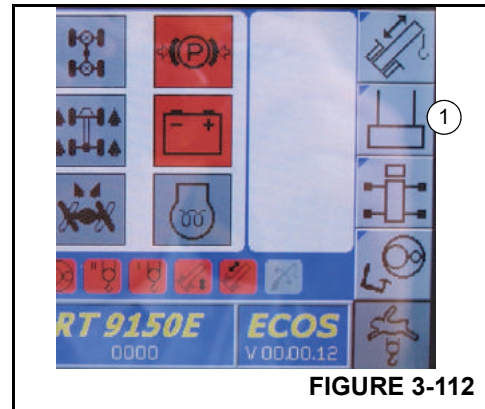

FIGURE 3-112
2. In the Main menu, press the F6 button (1) (Figure 3-112) once.